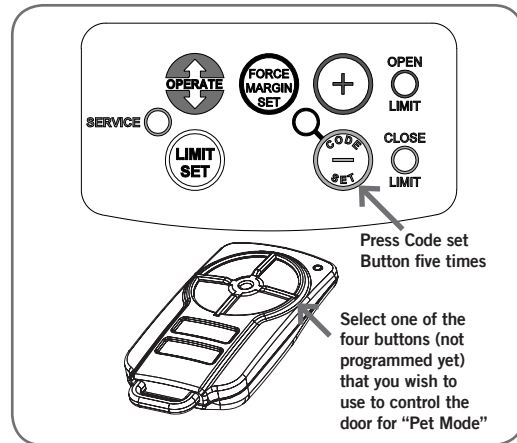

Fig.32
19.5 - Setting the Transmitter to Operate Pet (Pedestrian) Mode (Fig.32)